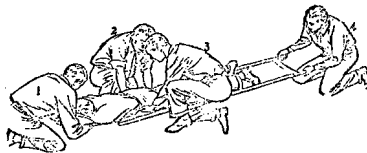

FIGURE 44. Lifting and Placing of Litter.
- (4) Step 4--On signal, all lift together so that the victim is raised 5" or 6" from the floor (just high enough to slide a litter underneath). (See Figure 44.)